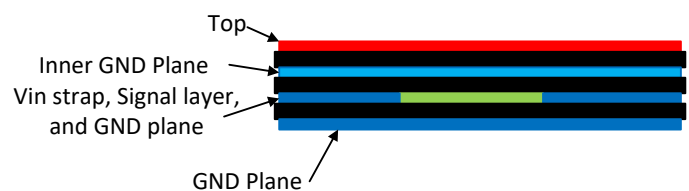

图 22. Example Layout for WQFN Package
1. **Place the input capacitor or capacitors as close as possible to the VIN and GND terminals.** VIN and GND pins are adjacent, simplifying the input capacitor placement. With the WQFN package there are two VIN/PGND pairs on either side of the package. This provides for a symmetrical layout and helps minimize switching noise and EMI generation. A wide VIN plane must be used on a lower layer to connect both of the VIN pairs together to the input supply; see 图 22.